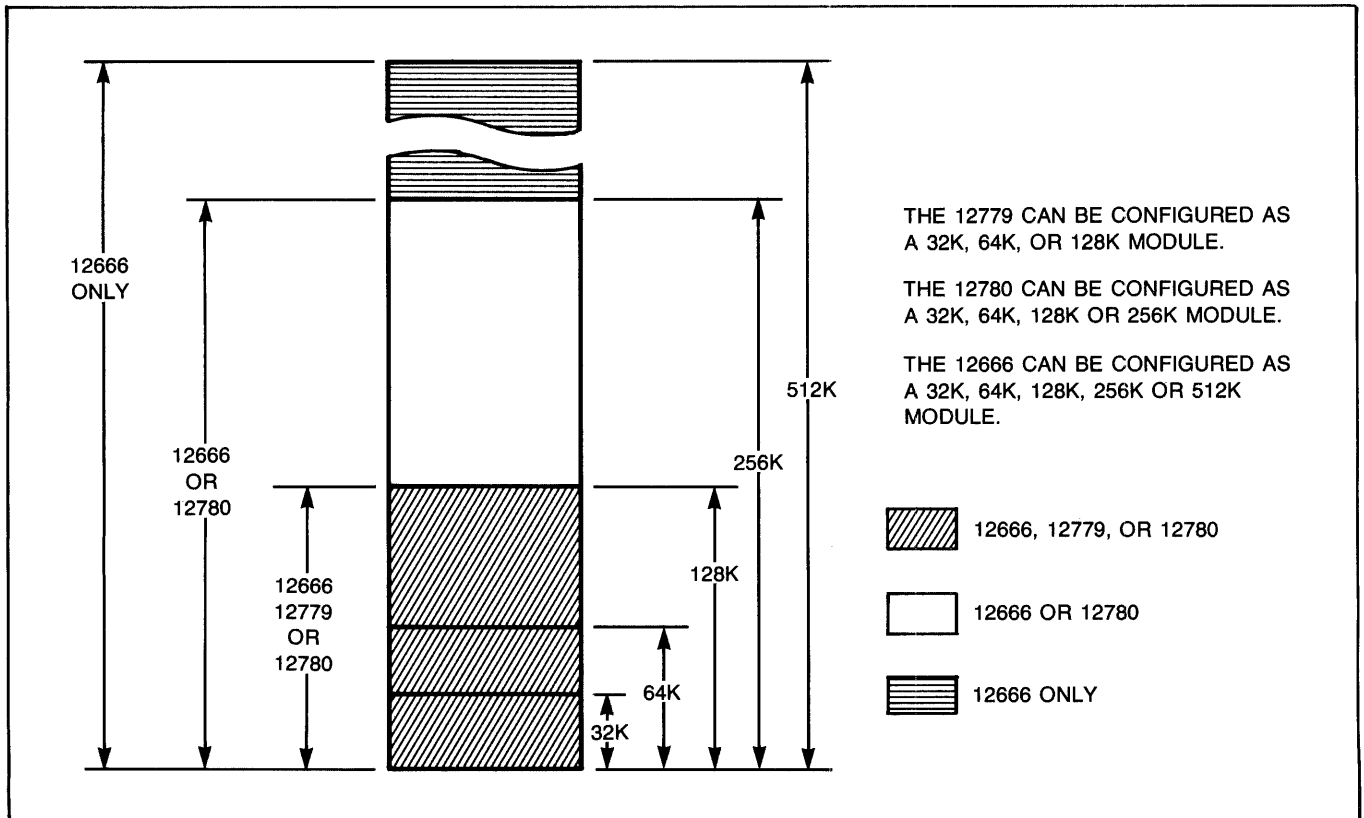
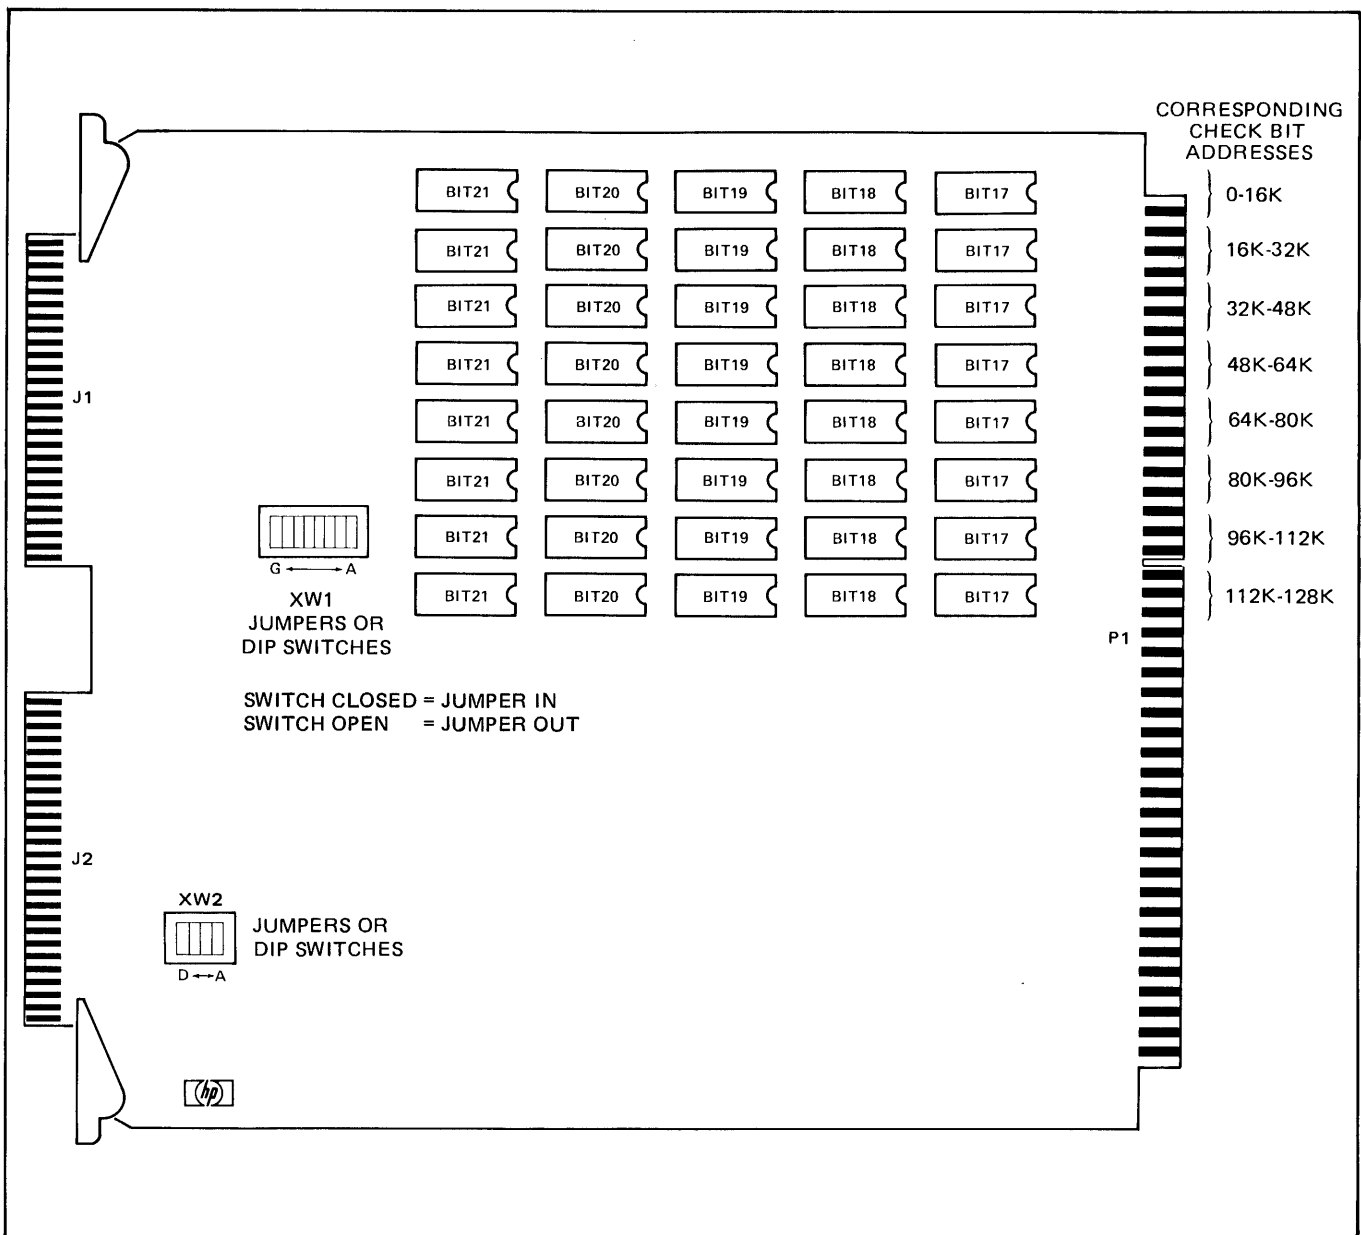

Figure 4-3. Check Bit Array Memory Assignments
Figure 4-4. 12779H Jumper or DIP Switch Locations
- Configure Check Bit Arrays to support the memory to be installed in the system; refer to figures 4-4, 4-5 and 4-6, and table 4-2. Some sample check bit array requirements and assignments are listed in table 4-1 and figure 4-3.